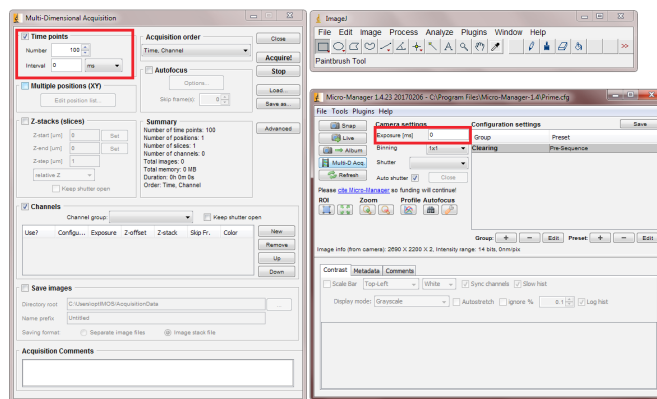

Figure 2
3. Take 100 frames with these settings (Figure 2).